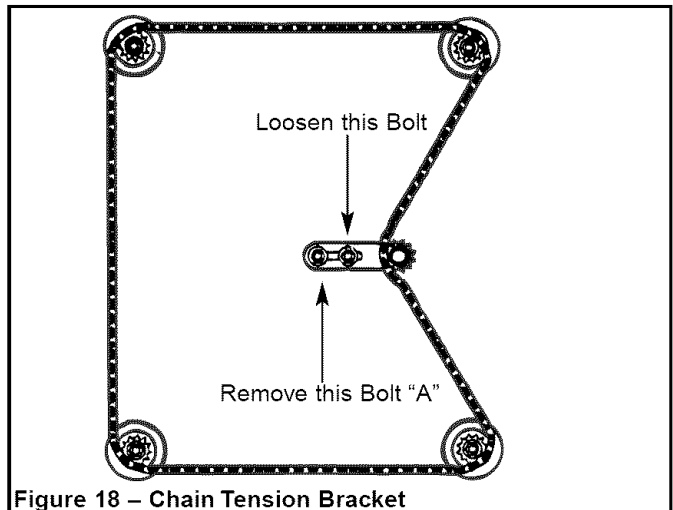

Figure 18 – Chain Tension Bracket
- If roller case is not parallel to the table, then the table must be adjusted. Loosen the two bolts holding the chain tension sprocket (See Figure 18). It may be necessary to remove bolt "A" to release the tension in the chain.